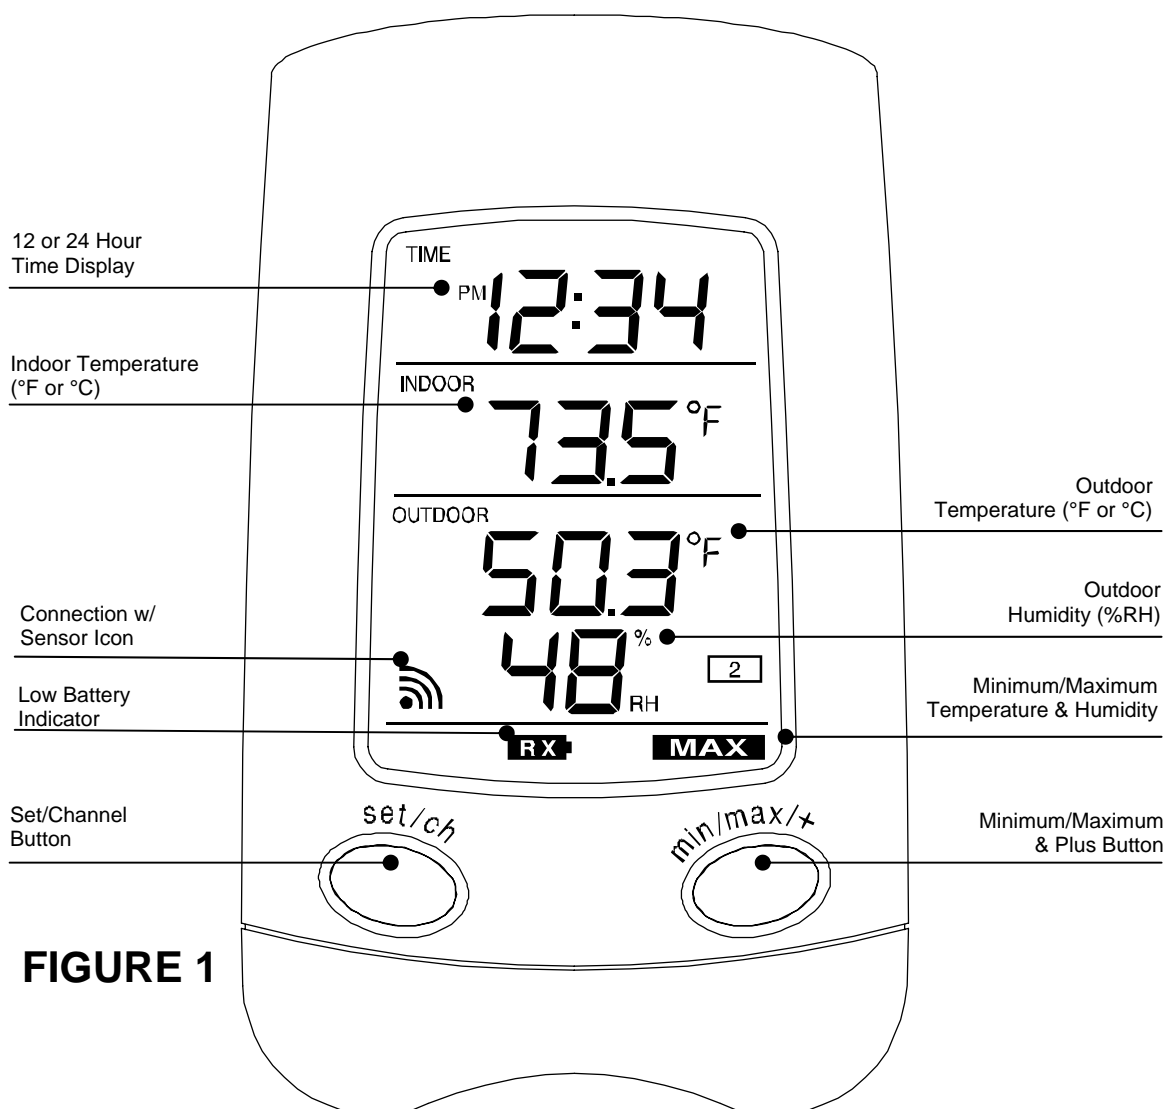

FIGURE 1
1. Wireless Weather Station (Figure 1)